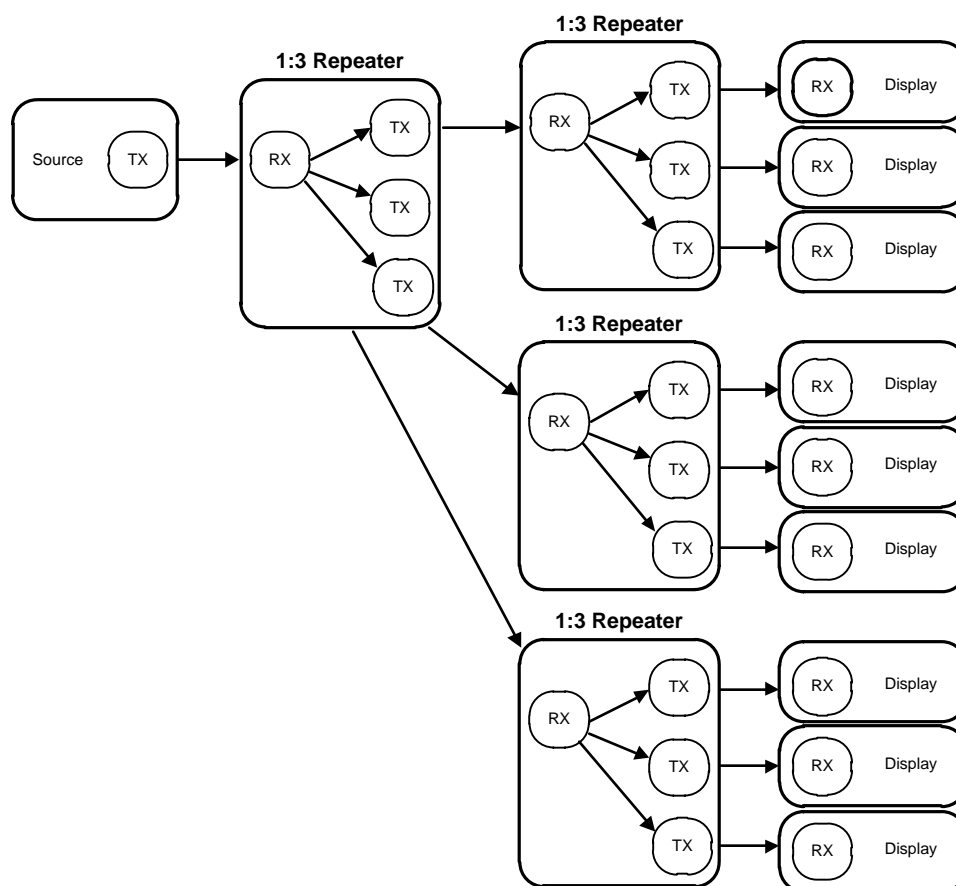

Figure 33. HDCP Maximum Repeater Application
In the HDCP repeater application, this document refers to the DS90UH927Q-Q1 or DS90UH925Q-Q1 as the HDCP Transmitter (TX), and refers to the DS90UH928Q-Q1 or DS90UH926Q-Q1 as the HDCP Receiver (RX). Figure 33 shows the maximum configuration supported for HDCP Repeater implementations. Two levels of HDCP Repeaters are supported with a maximum of three HDCP Transmitters per HDCP Receiver.